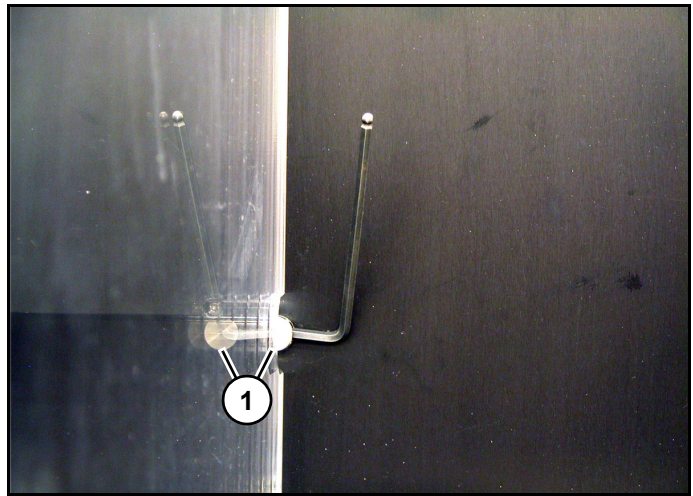

Figure 7
8. Place clamps (1) (Figure 7) into top holes and repeat steps 5 and 6.